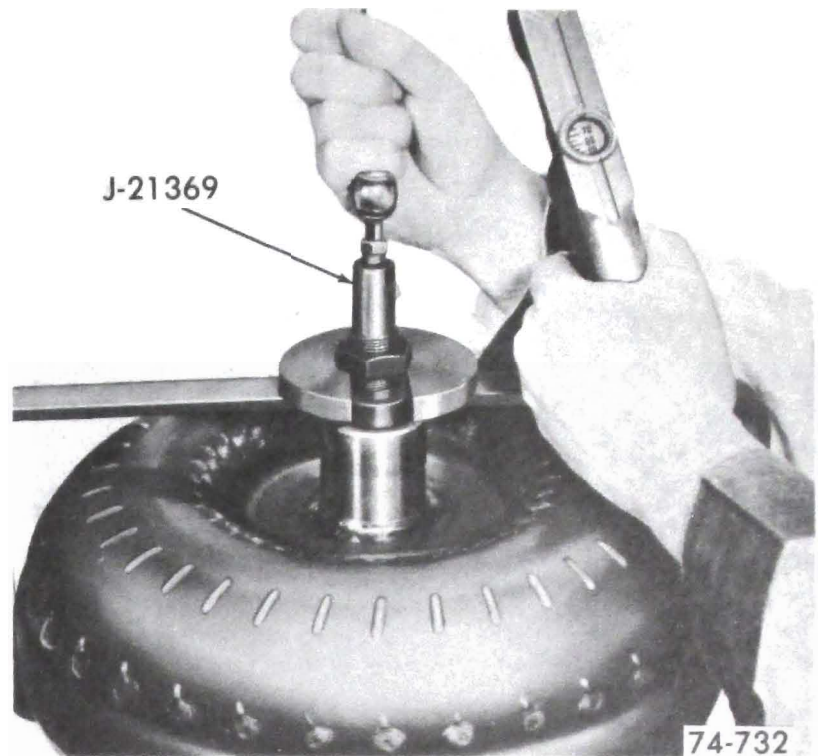

Figure 76-237
1. Check converter for leaks as follows: (See Figure 76-237.)